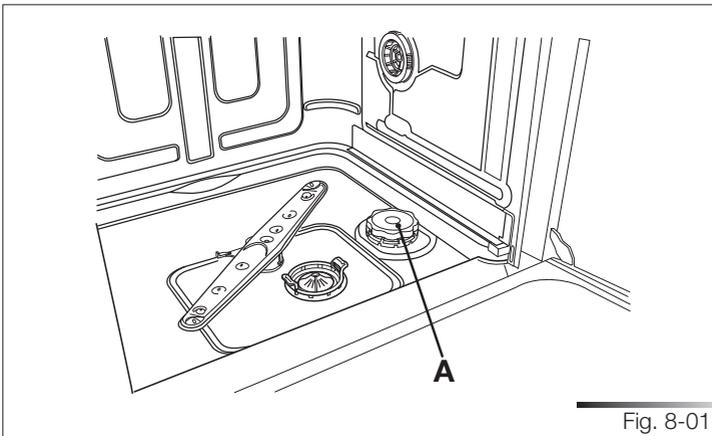
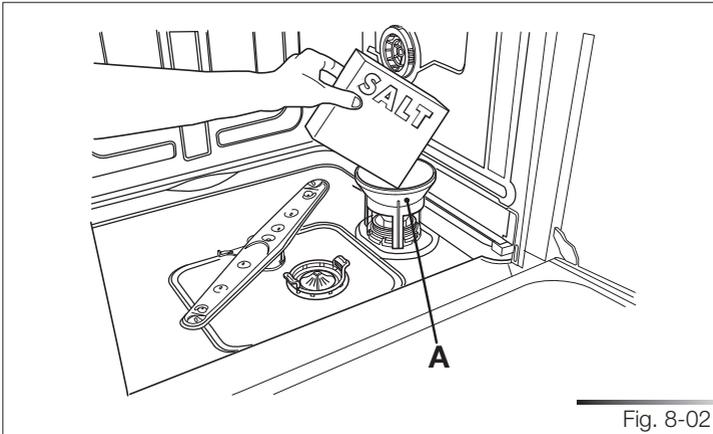

Fig. 8-01
Fig. 8-02
The amount of scale contained in the water (water hardness index) can cause whitish staining on the dry dishes, which tend to become dull over time. The dishwasher is equipped with an automatic softening system which uses a special regenerating salt to reduce the hardness of the water. The dishwasher is factory set for water hardness level 3 (average hardness **41-60°F – 24-31°C** / **23.6-35 gpg**). When using water of medium hardness, the regenerating salt container should be refilled after approximately **20 washing cycles**. The salt container can hold approximately **1.7 Kg (3.75 lb)** of salt in grains. Some models are equipped with an optical no-salt indicator. In these models, the cap of the salt container contains a green float which descends as the salt concentration in the water drops. When the green float can no longer be seen, the container must be topped up with regenerating salt. The container is situated at the bottom of the dishwasher. After removing the lower rack, unscrew the salt container cap (ref. A fig. 8-01) by turning it counter clockwise and pour in the salt using the funnel (ref. A fig. 8-02) supplied with the dishwasher. Before replacing the cap (ref. A fig. 8-01), remove any salt residues from around the opening.
- Each time the salt container is refilled, make sure that **the cap (ref. A fig. 8-01) is securely closed**. The mixture of water and detergent must never penetrate the salt container, as this would compromise the operation of the regeneration system. In the event of this occurring, the warranty will be invalidated.